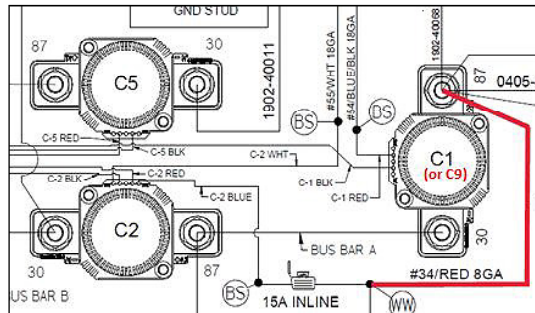

Figure 6 — JEMS 4 12V Supply Wire To C1 (or C9)
- If the wire is connected to the stud on contactor C1 may be labeled C9 on some JEMS 4 units (refer to Figure 6 or 7), the wiring has already been modified. Proceed to Step 11.